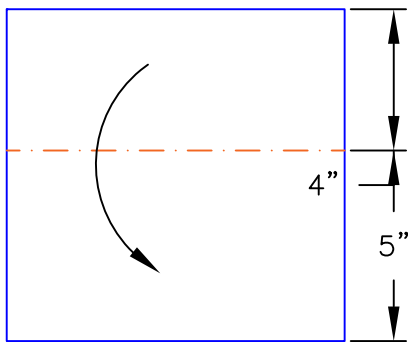

FIG. 2.1
STEP 2: TAKE 8 SHEETS (TWO FOR EACH CORNER) AND FOLD THEM MAKING ONE SIDE 4" AND ONE SIDE 5", AS SHOWN IN FIG. 2.1. CREASE THE SHEET AND RETURN IT TO ITS ORIGINAL STATE.